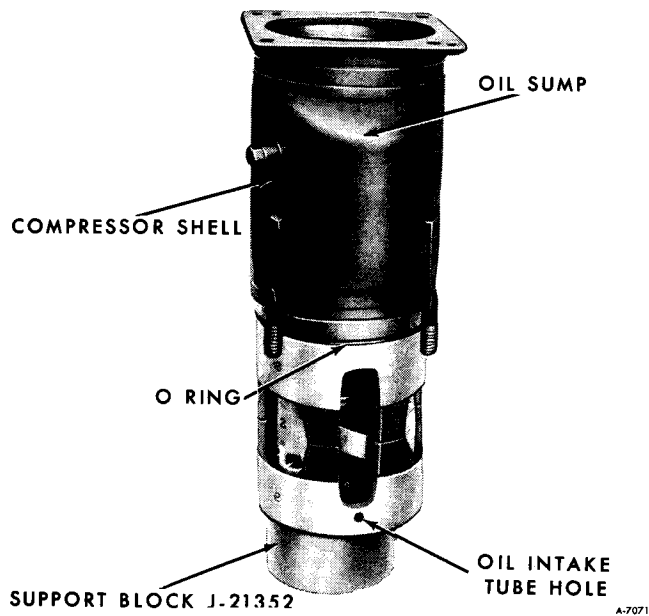

Figure 132—Installing Compressor Shell
10. Using flat-side of a small screwdriver, gently position O-ring in a round circumference of internal mechanism until compressor shell slides down over internal mechanism. As shell slides down, line up oil sump with oil intake tube hole (figure 132).